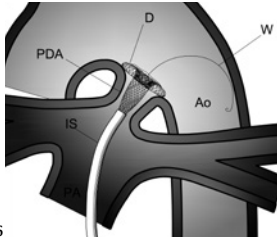

Fig. 16
- By pulling the Implantation Sheath (IS), gently pull the retention disc against the aortic ampulla. Fig. 16.